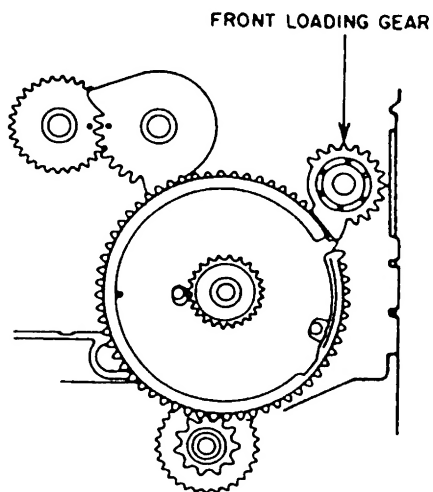
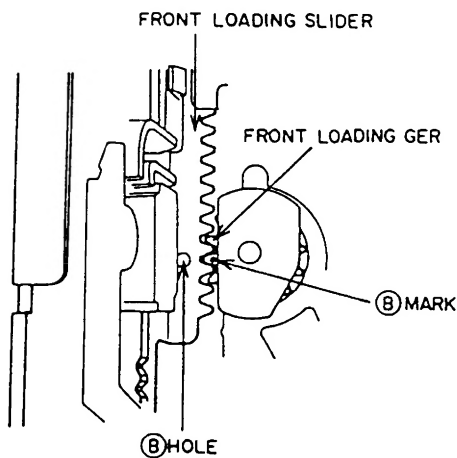

Fig. 3-10
Fig. 3-11
- 3) Attach the FRONT LOADING GEAR as shown in Fig. 3-10. At this time, align the Ⓑ mark on the FRONT LOADING GEAR with the Ⓑ hole of the FRONT LOADING SLIDER as shown in Fig. 3-11.